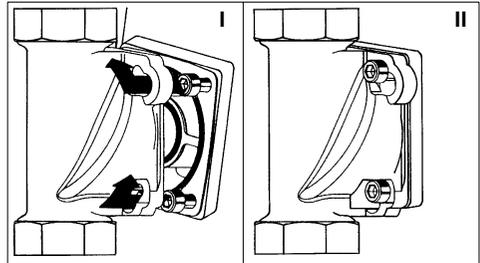

Fig. 7: Built-in rotary flange with bayonet fixture
- Position it on the built-in rotary flange so that the screw heads pass through the bayonet fixing drill holes (see fig. 7 I).
- Tightly fasten the four cylinder screws M6x130 (see fig. 7 II).